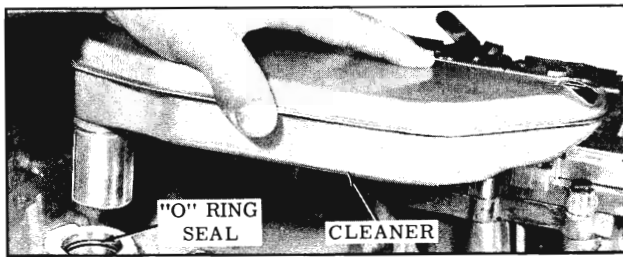

Fig. 3-323 Installing Cleaner
71. Install the cleaner "O" ring into bore in case. (Fig. 3-323)